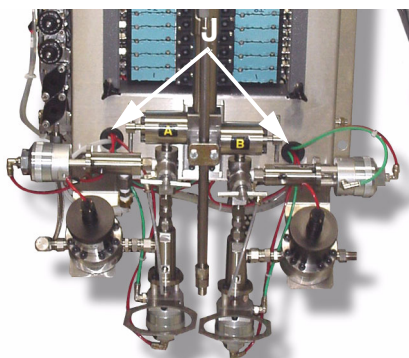
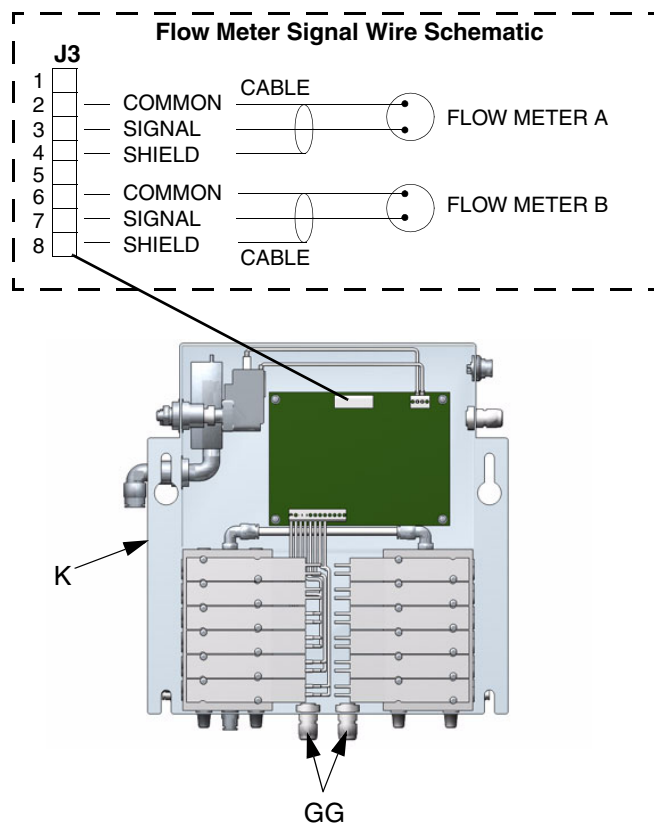

FIG. 19
FIG. 20
- Route the signal cables through the Smart Fluid Panel holes (J - FIG. 19) and into the enclosure through the strain reliefs (GG - FIG. 20). Leave enough slack in the cable so the enclosure (K) can be raised for service.
- See FIG. 20 for electrical connections.